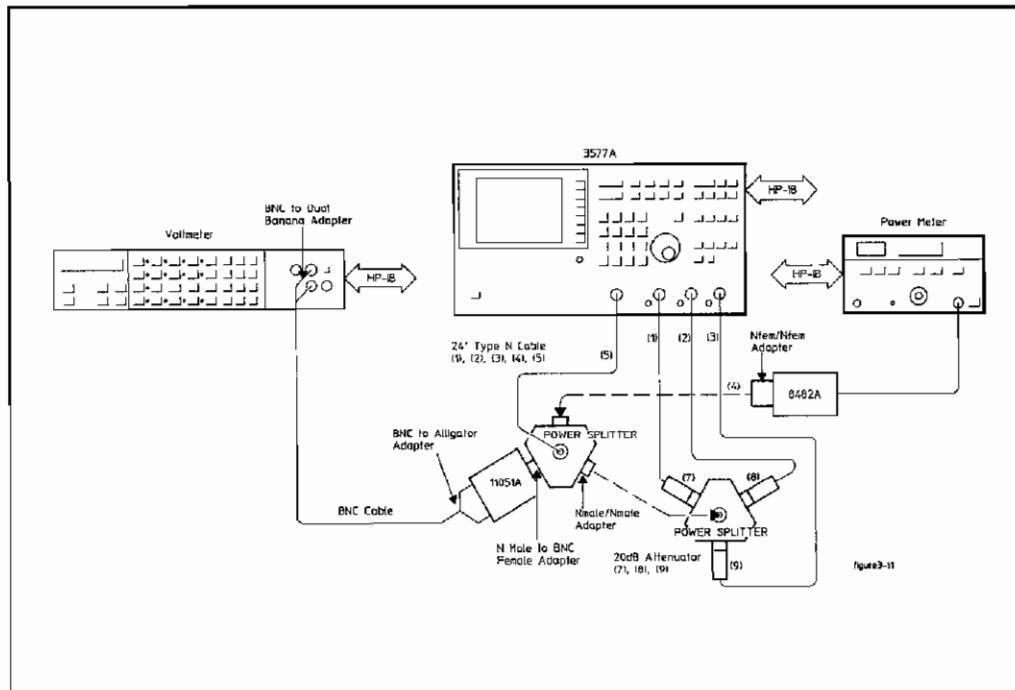

Figure 3-11 Absolute Accuracy and Flatness Test Set-Up (50 Ω)
- v. Connect the test equipment as shown in Figure 3-11. Also connect the voltmeter, power meter, and the HP 3577A to an HP-IB bus connected to a series 200 computer. The following addresses are used in the program: